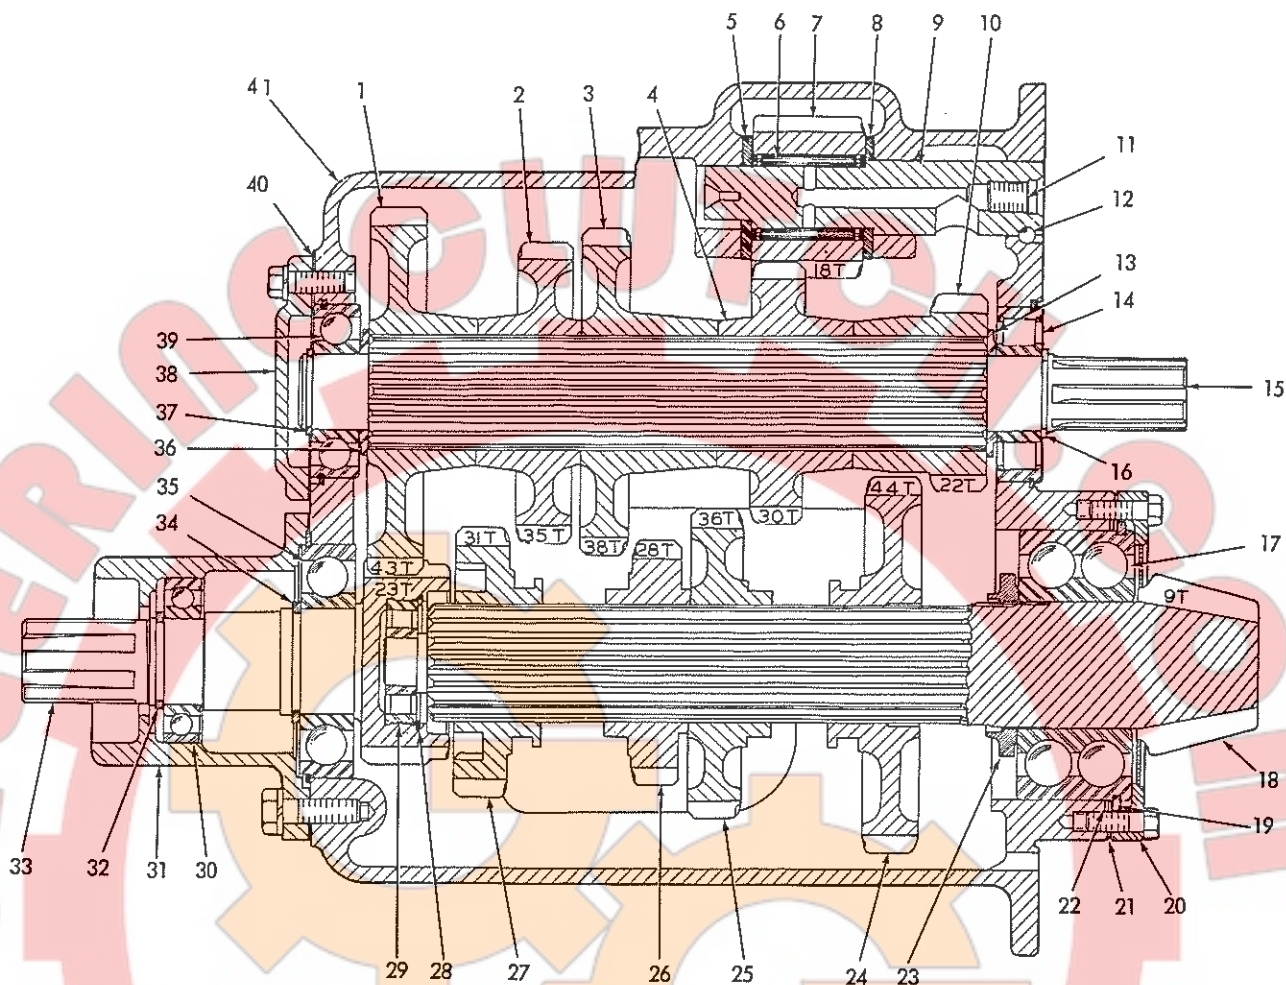
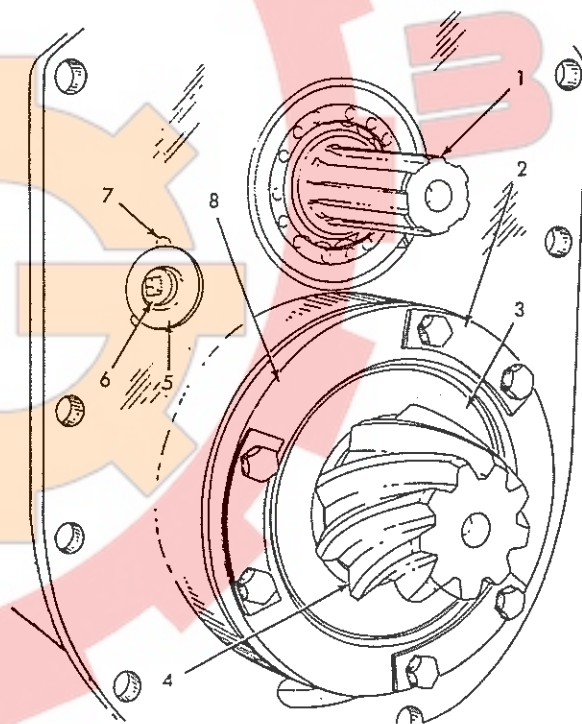

Fig. 1 One Speed Reverse Transmission (Standard HD6A, B, and E)
Fig. 5 Transmission Shafts Installed - Rear View
12. Unlock and remove capscrews from pinion shaft rear bearing retainer Fig. 5 (8). Remove retainer and retainer shims; tie shims to retainer to prevent loss.
16. Remove low speed reverse gear shaft plug, Fig. 5. Use slide hammer puller to pull shaft from transmission; catch steel locking ball, Fig. 1 (12) as shaft is removed. Remove reverse gear, bearing, and thrust washers from transmission.
- c. Position reverse gear shaft Fig. 5 (5) so hole for steel ball is in line with notch in transmission (7). Start shaft in bore and install steel ball in shaft; drive shaft into position. Install plug (6) in end of shaft.